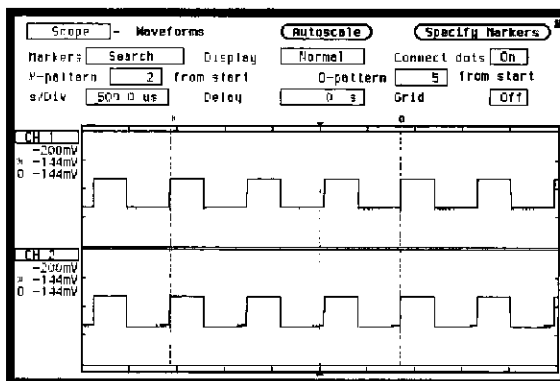

Figure 25-21. Search Markers Menu
1. In the Waveforms menu, select **Markers** field. When the pop-up appears, select the **Search** field. With Markers set to Search, two new fields will appear: **X-pattern** from start, and **O-pattern** from start. Set the X-pattern to 2, and the O-pattern to 5. Set the s/Div to 500 μ s. See figure 25-21.